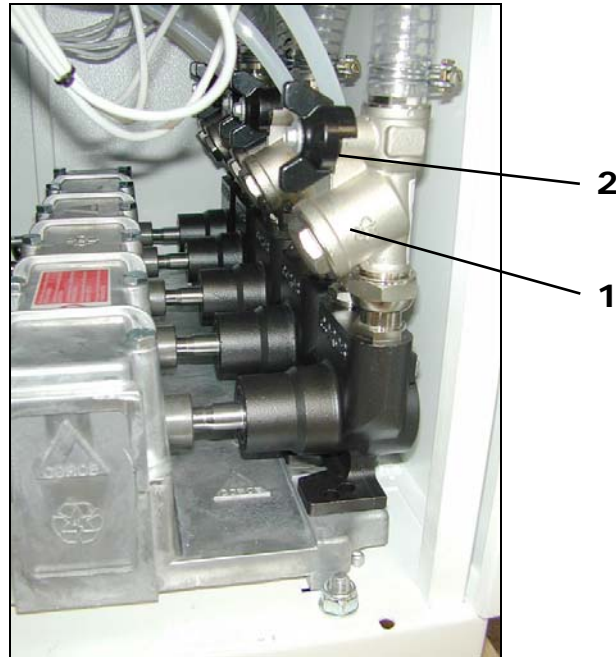

Figure 8-3
The flow rate and precision of the machine could be jeopardized by excess residue in the colorant, trapped in the pump filters (1) (Figure 8-3).
Filter clogging could reduce the machine flow rate, leading to imprecise dispensing (Figure 8-3).
3. Close all of the taps (2), located above the pumps, to stop the flow of colorant (Figure 8-3).